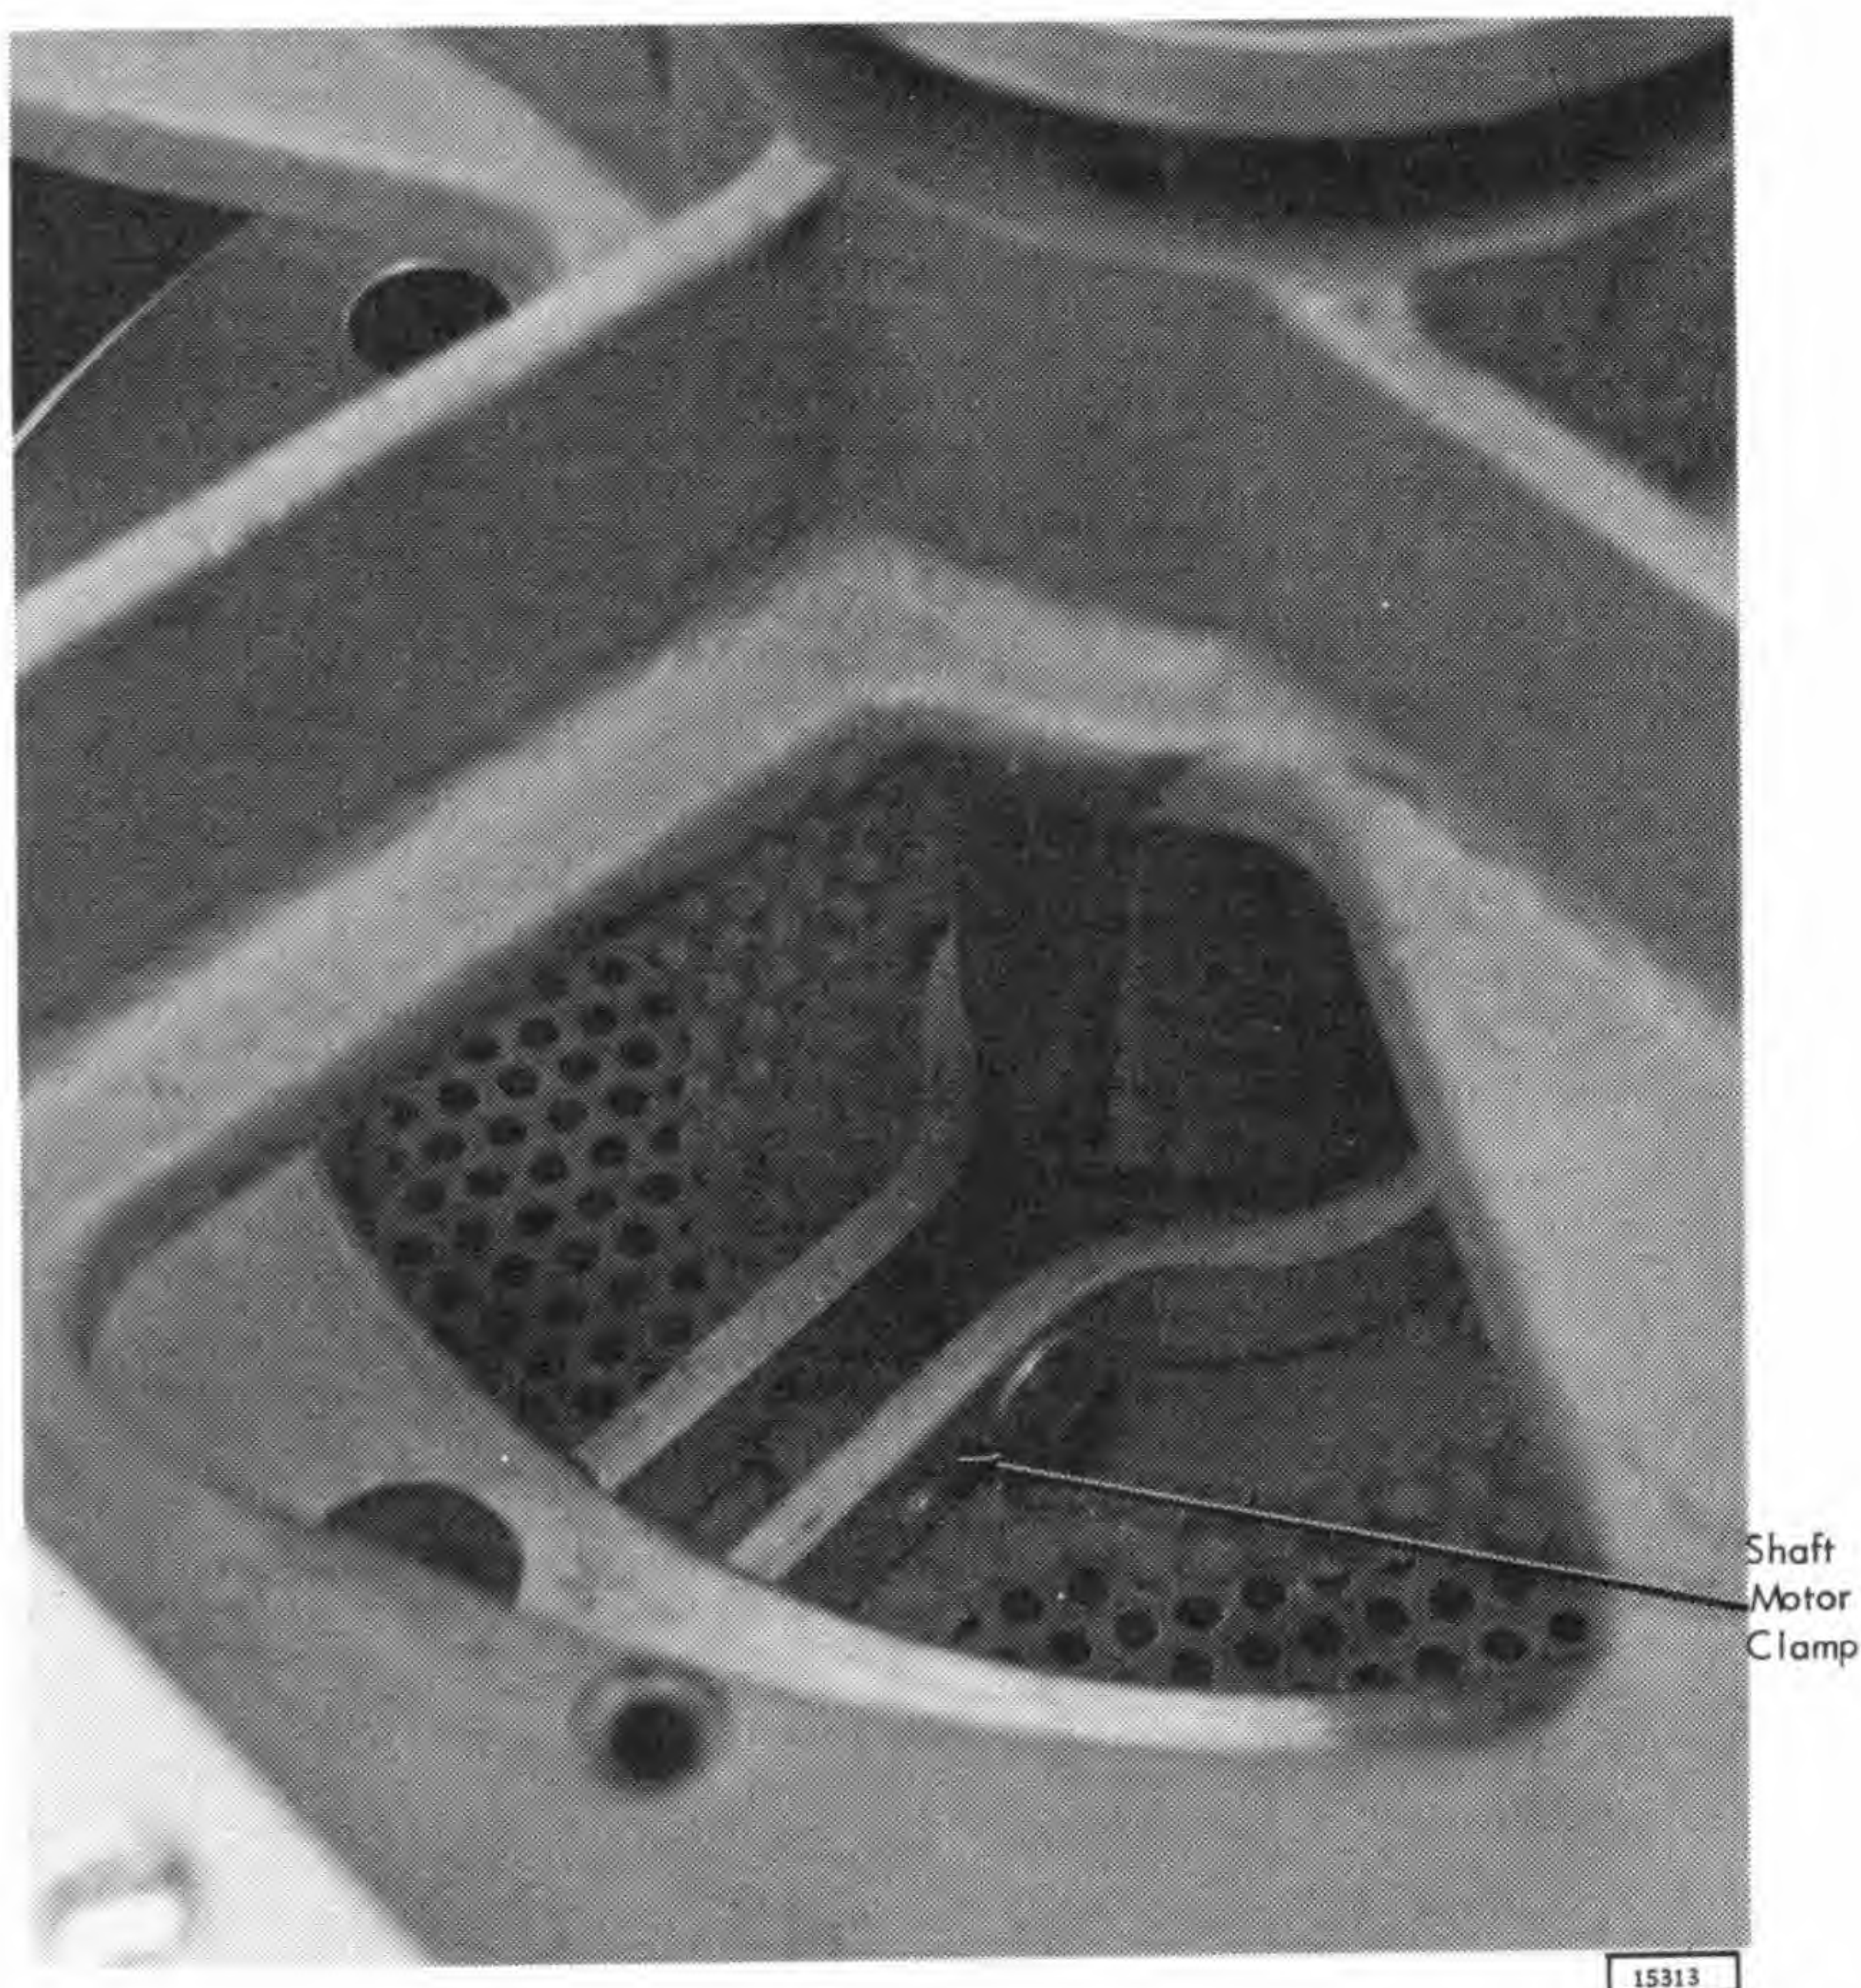

Figure 2-8. Shaft Motor Clamp
10. Lock shaftmotor with shaftmotor clamp to keep disks from rotating during disk scribing operation (Figure 2-8).